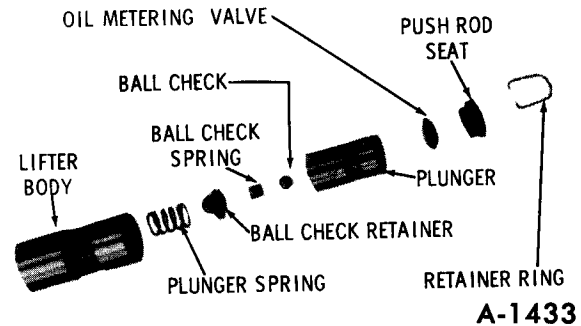

Figure 26—Valve Lifter Components
After lifters are disassembled, all parts (figure 26) should be cleaned in clean solvent. A small particle of foreign material under the ball check valve will cause malfunctioning of the lifter. Close inspection should be made for nicks, burrs or scoring of parts. If either the body or plunger is defective, replace with a new lifter assembly.
6. Assemble ball check and retainer into plunger (figure 26).